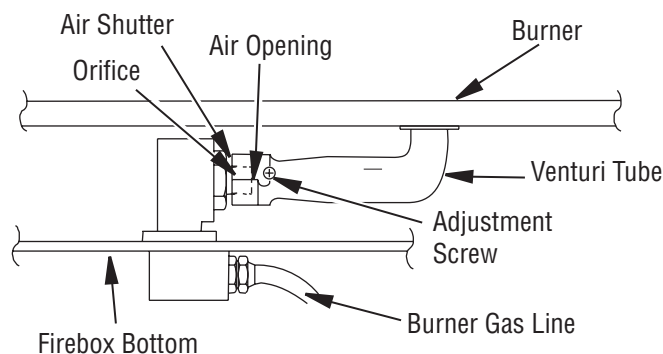

Figure 5 - Removing/Replacing Orifices
4. Insert main burner venturi tube through center cutout in hearth pan. Slide air shutter mount over orifice (see Figure 5, page 3). Replace 2 mounting screws.